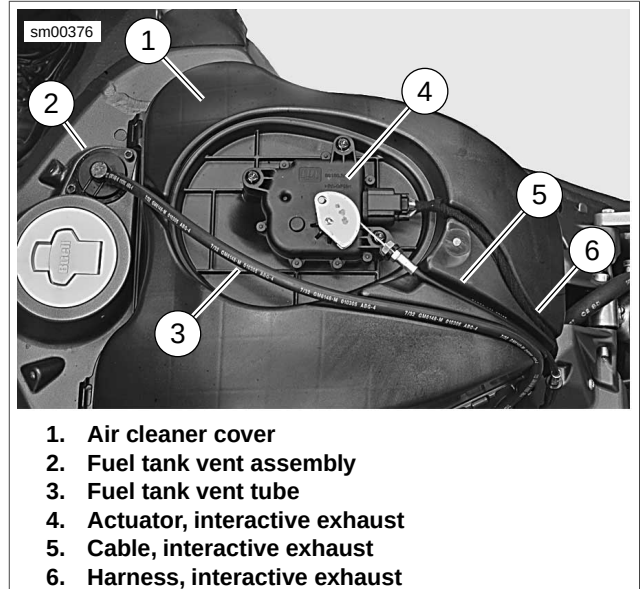
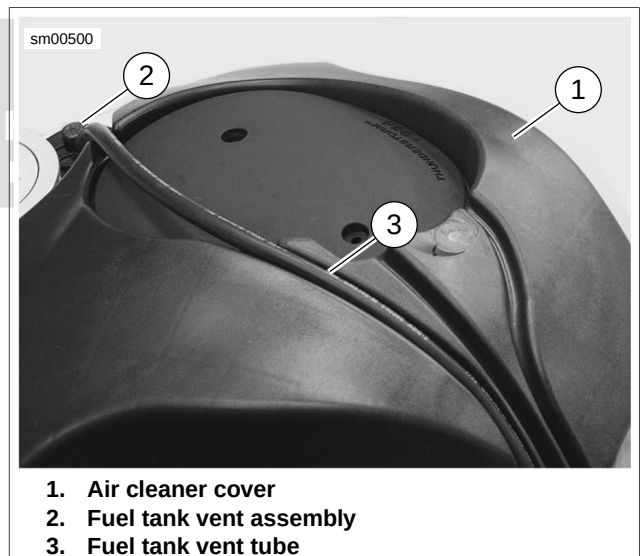

Figure 1-38. Air Cleaner Cover (XB12 Models)
Figure 1-39. Air Cleaner Cover, Fuel Tank Vent Tube and Fuel Tank Vent Valve (XB9SX Model)
3. See Figure 1-38 or Figure 1-39. Remove fuel tank vent tube (3) from fuel tank vent valve (2) at front of air cleaner cover and groove on top of air cleaner cover (1).